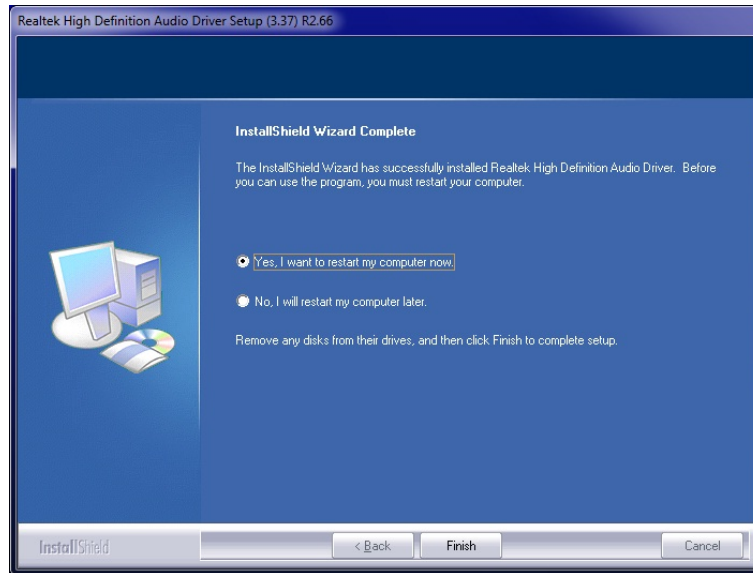

Figure 6-26: Restart the Computer
**Step 8:** After the driver installation process is complete, a confirmation screen appears (Figure 6-26).